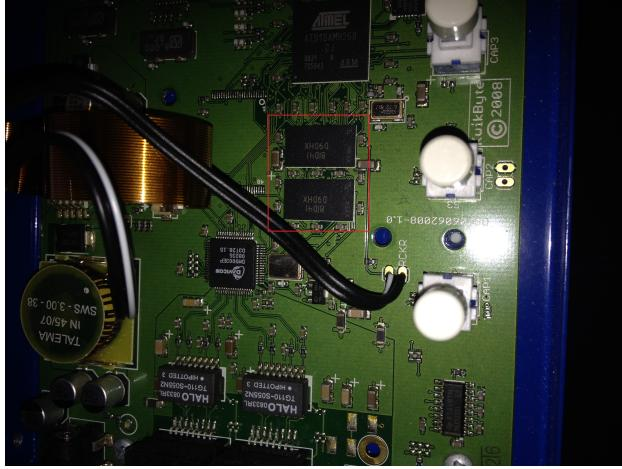

Figure 1: Dual MT48LC16M16A2BG SDRAM
1. Rather than the 64 MB SDRAM in item 5 above, the DS9260 instead has 512 MB of SDRAM, implemented with two Micron MT48LC16M16A2BG ICs (Fig. 1);